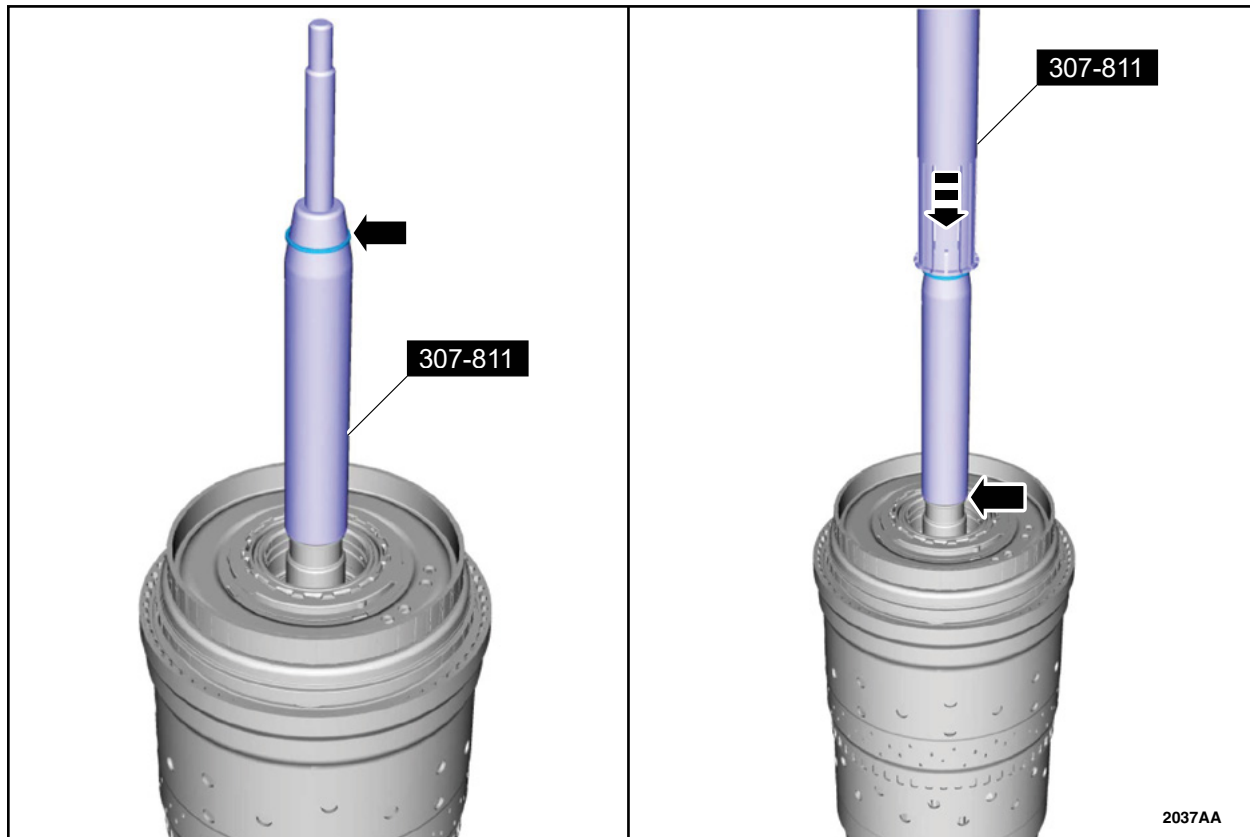

FIGURE 20
22. Install a new Teflon® seal on special tool 307-811. Using the top half of special tool 307-811, slide the Teflon® seal into the groove. Remove special tool 307-811 and repeat the steps for the other damaged front support assembly seal. See Figure 20.